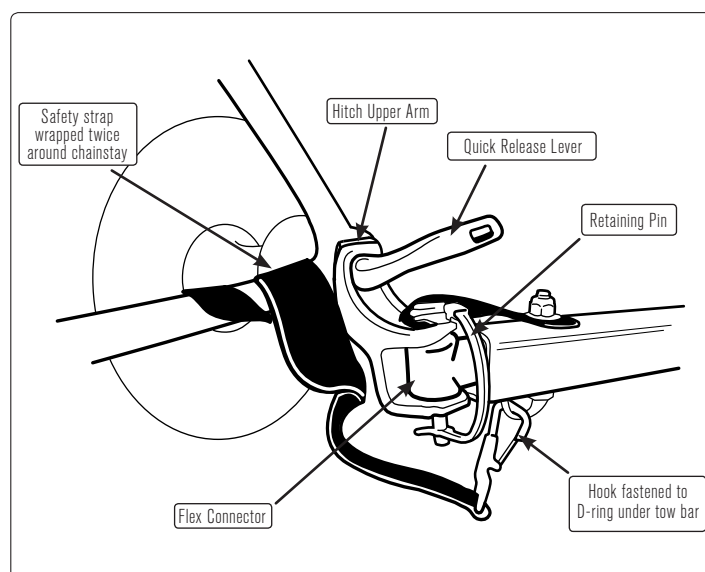

FIGURE 8: Quick release assembly shown
7. Wrap safety strap twice around inside of chain stay. Fasten hook to D-ring on underside of tow bar end. **FIGURE 8**